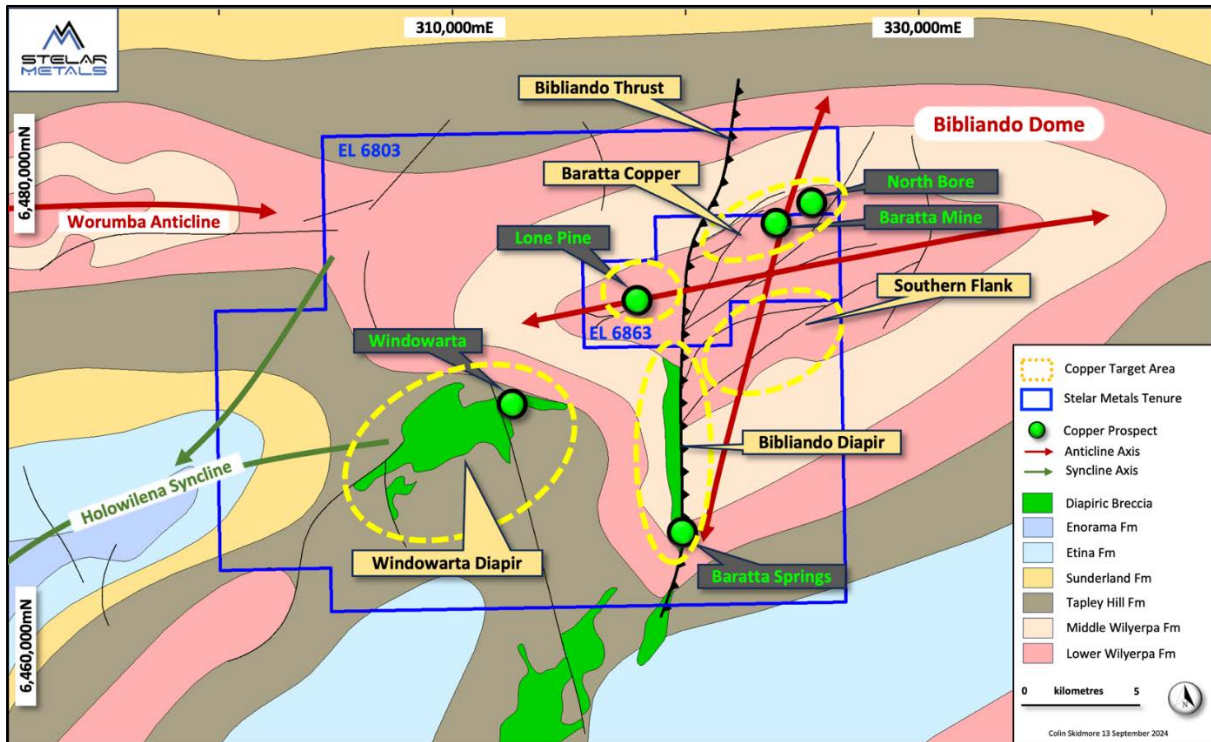

Figure 1: Baratta Copper Project showing the Bibliando Dome and priority target areas on simplified geology
**Stelar Metals Limited** (ASX:SLB) ("**Stelar Metals**" or "**the Company**") is pleased to announce the second round of rock chip samples results from the Lone Pine Prospect located on the western limb of the Bibliando Dome some 7.5 kilometres west of the historic Baratta Mine workings (*Figure 1*).
Lone Pine is located within the hinge-zone on the western flank of the Bibliando Dome. This elliptical east-west striking salt-cored, doubly-plunging anticline extends over 35 kilometres along its longitudinal axis (*Figure 1*). The Bibliando Thrust, a large regional north-south trending thrust fault, cuts the western portion of the dome with Lone Pine located in the western down-thrust block, whereas the Baratta Mine area is in the eastern up-thrust block.